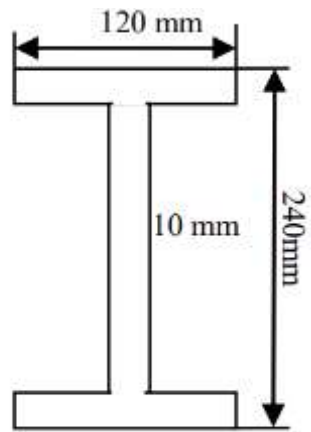

Figure 1
- (b) Find the shape factor for the given section in figure 1. Also, find the fully plastic moment for the given section when $F_y = 252 \text{ N/mm}^2$. **04**